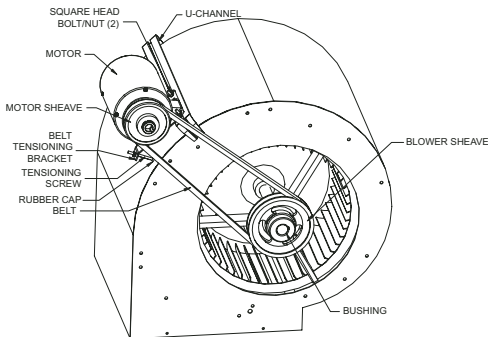

Figure 7 – Drive Package Assembly
- Install the motor and drive package as shown in Figures 7, 8 and 9 on page 4.